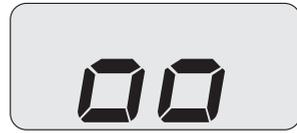
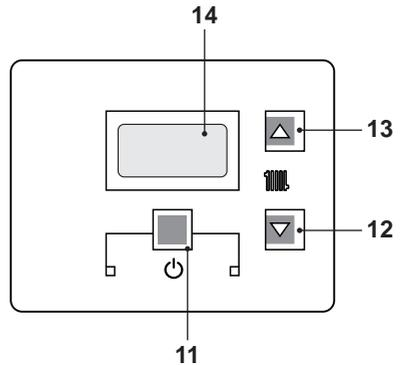

Fig. 7.5
Fig. 7.6
- Electrically power the boiler by acting on the bipolar switch envisioned during installation. The LCD display displays the **00** symbol (Fig. 7.5).
- Press the 11 key for 2 seconds until  symbol appears on the display Fig. 7.6.
- Switch off the boiler by pressing the 11 (Fig. 7.6) key for 2 seconds until the  symbol appears on the LCD display (Fig. 7.5).
Press the reset key on the boiler control panel 11 (Fig. 7.6) to reset its functioning.